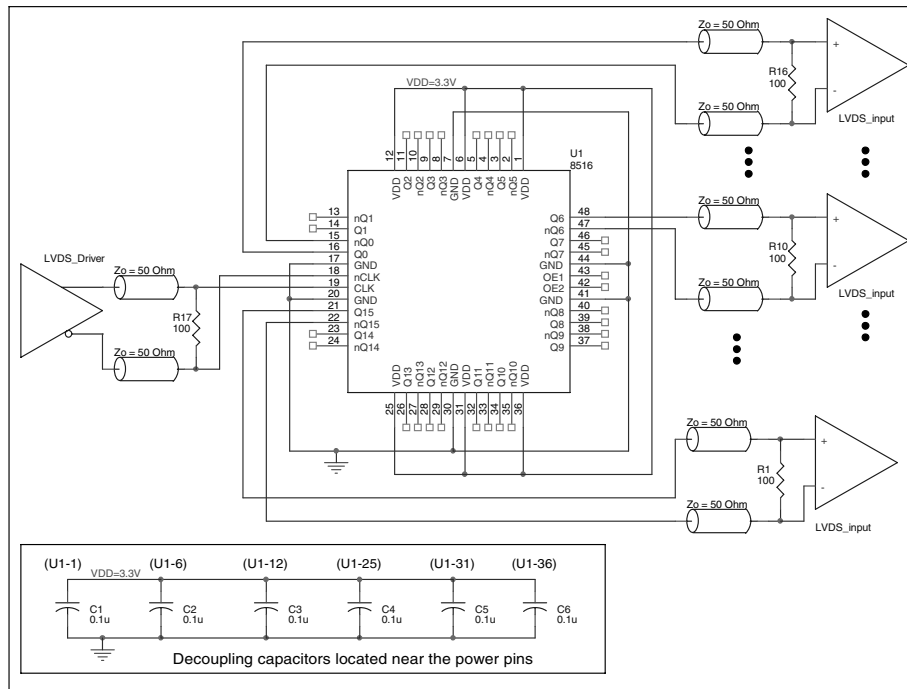

FIGURE 4. ICS8516 LVDS BUFFER SCHEMATIC EXAMPLE
*Figure 4* shows a schematic example of ICS8516. In this example, the input is driven by an LVDS driver. For LVDS buffer, it is recommended to terminate the unused outputs for better